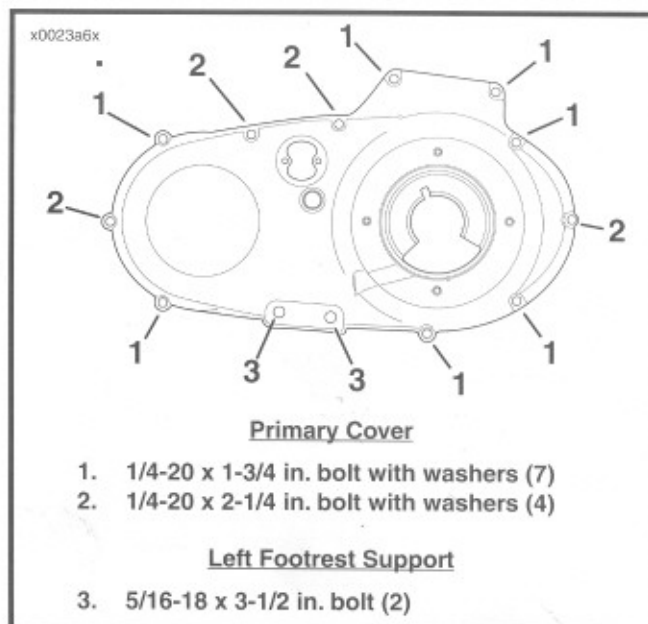

Figure 6-6. Install Primary Cover Bolts
3. See Figure 6-6. Install primary cover and gasket onto left crankcase half using mounting screws. Tighten screws to 80-110 **in-lbs** (9.0-12.4 Nm) torque.